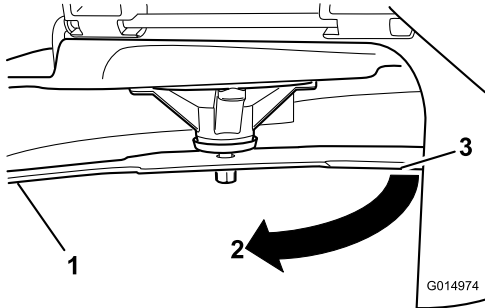

Figure 62
3. Second measured distance between blade and surface (B)
4. Rotate the same blade 180 degrees so that the opposing cutting edge is now in the same position (Figure 62).